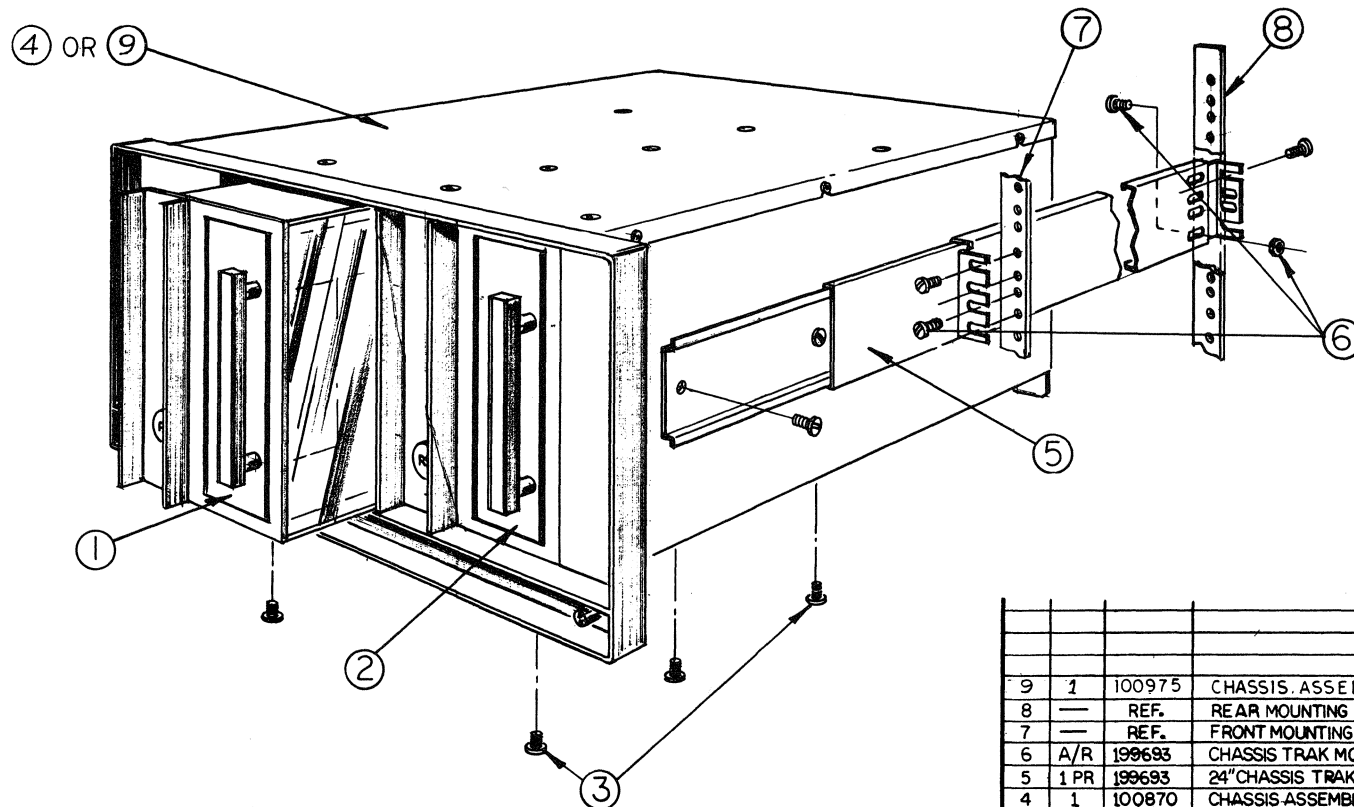

Figure 3-1
- 2) Separate the chassis slide and mount it on chassis as shown in Figure 3-1. Use the 10-32 x 3/8 screws supplied.